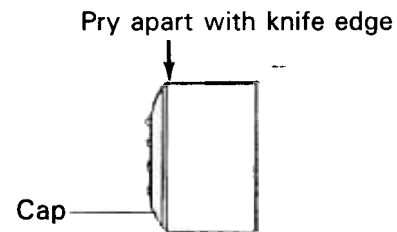

Figure 3
- Using a knife edge, carefully pry off float cap (See Figure 3).